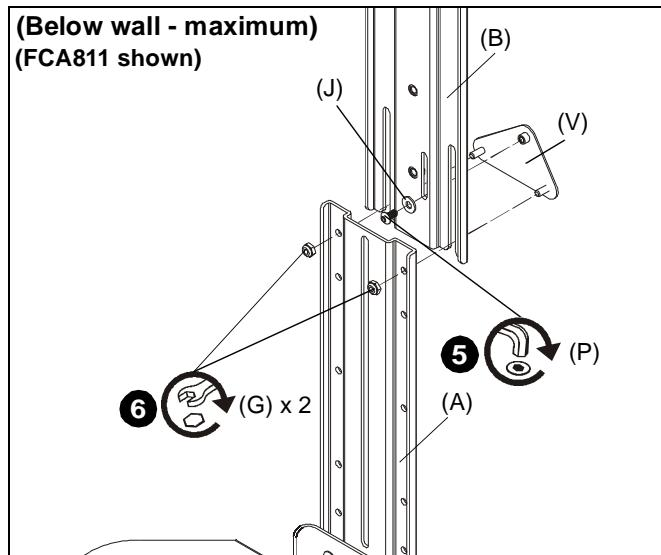

Figure 6
- (For maximum extension) Use #10-32 x 3/8" button head cap screw (P) and small washer (J) to secure adapter plate (V) to main bracket (B). (See Figure 6)
- (For maximum extension) Use two #10-24 lock nuts (G) to secure upright bracket (A) to main bracket (B) and adapter plate (V). (See Figure 6)